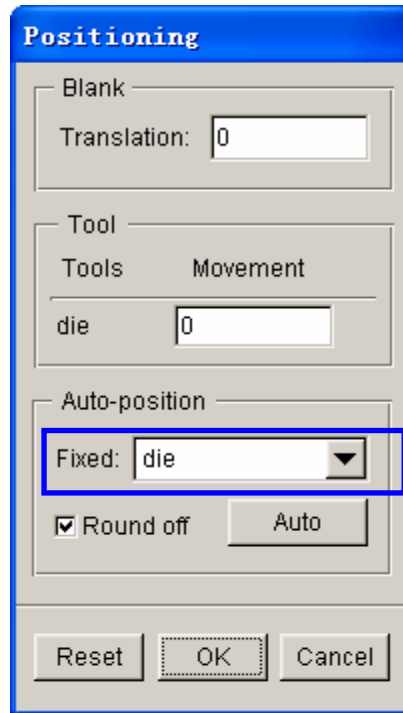

Figure 4.19 Before tools positioning
1. Click the **Positioning...** button located at the lower right corner of tool definition interface to display the POSITIONING dialog box illustrated in Figure 4.19. Alternatively, you can select **Tools→Positioning...** from the menu bar.